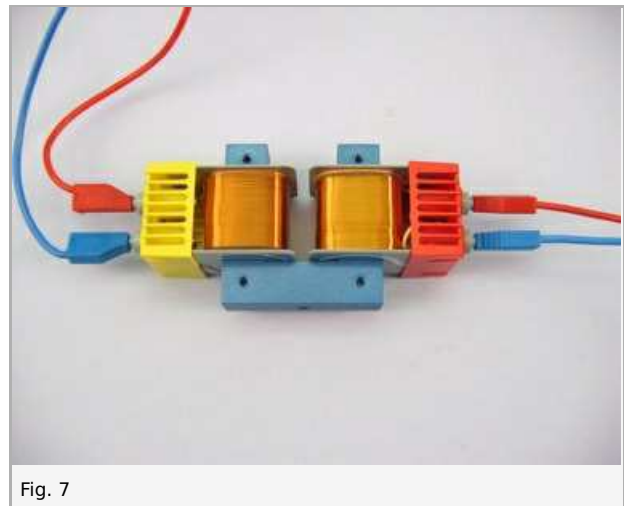

Fig. 7
- Plug the field and induction coils onto the U-core (see Fig. 7); open and close the switch; note what you observe under Result - Observations 5; observe and note the size of the pointer deflection.